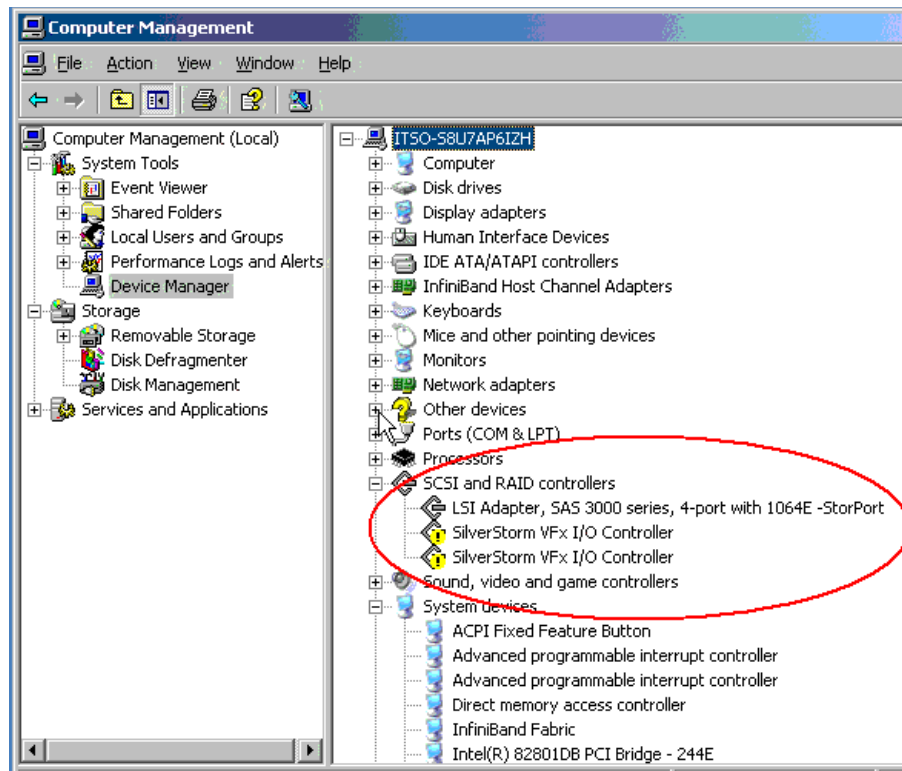

Figure 4-52 VFX Controllers in Device Manager
- Repeat steps 4 through 6 for the other VFX Controller. There are a total of two controllers. When the driver installation is complete, you see two SilverStorm VFX I/O Controllers under SCSI and RAID Controllers in Device Manager as shown in Figure 4-52.